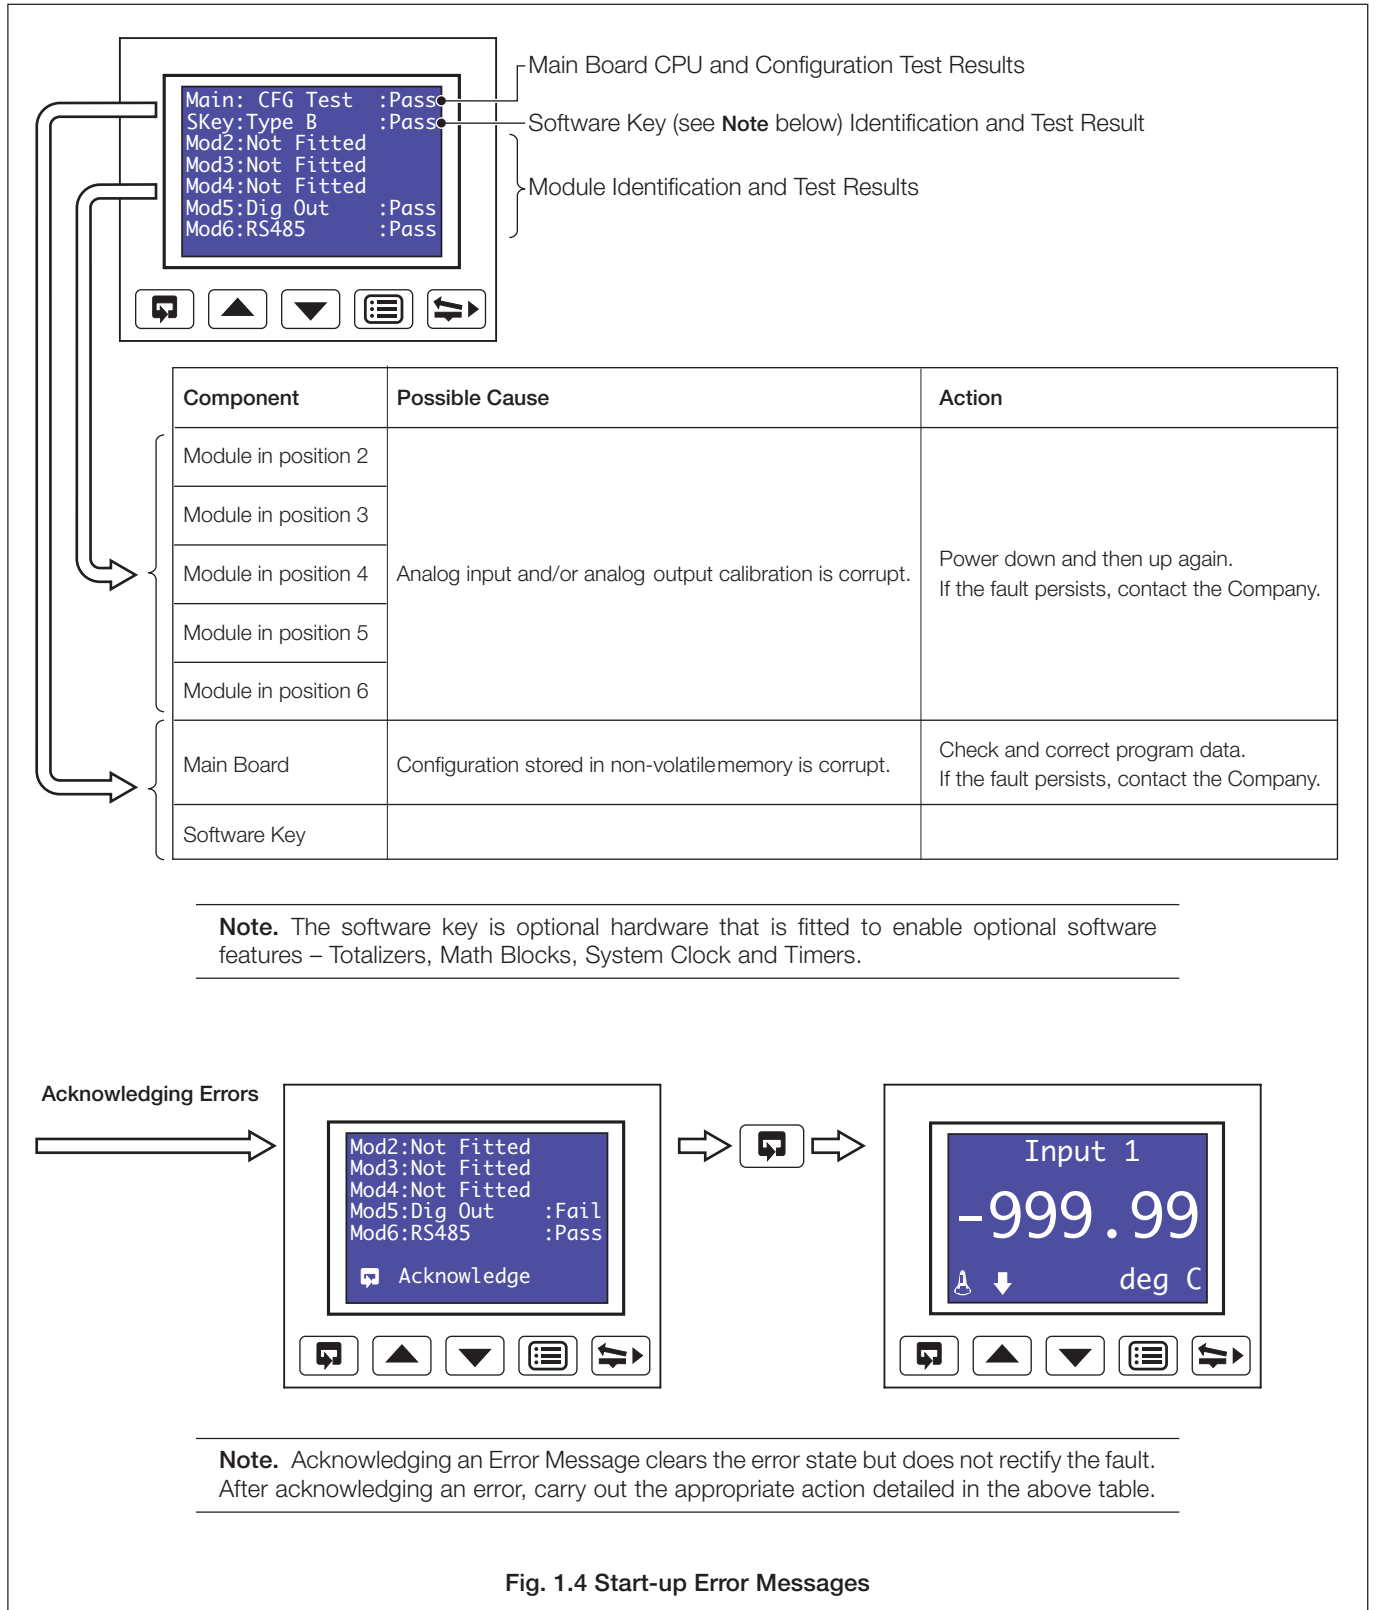

Fig. 1.4 Start-up Error Messages
1.2.1 Recorder Status and Error Page – Fig. 1.4
If any of the start-up self-tests (see Fig. 1.3) fail, the error message 'Fail' is displayed. Refer to Fig. 1.4 for possible cause and remedial action information.